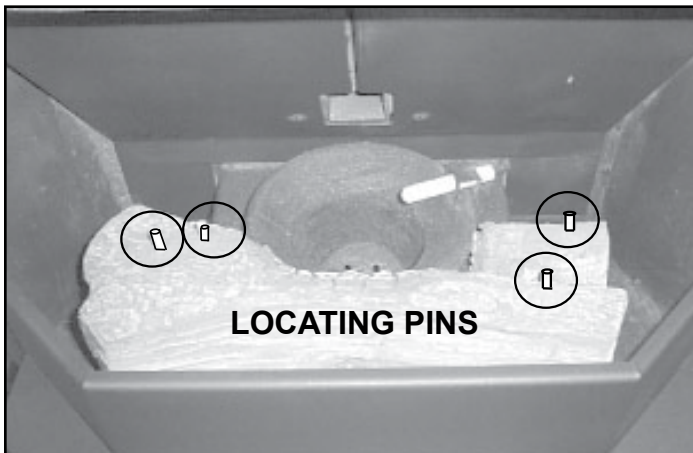

Figure 24.2
1. Place the front log in first as shown in **Figure 24.2** charred area surrounding fire pot.